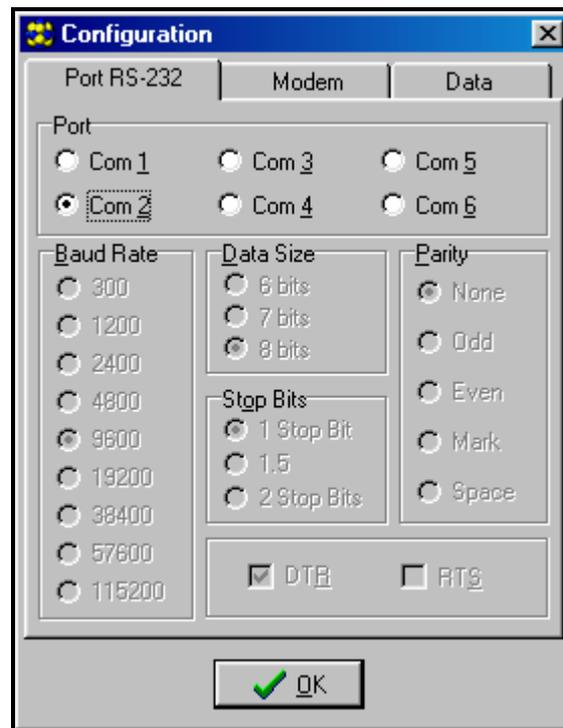

Figure 12.
3. Enter the option of module communication settings by clicking on the  icon (or through the **Communication**→**Configuration** menu) and select the port through which the computer connects with the module RS-232 port (see figure 12).